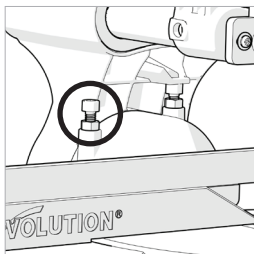

Fig. 16
- Use a Hex Key to adjust the Adjustment Screw in or out as required. **(Fig. 16)**